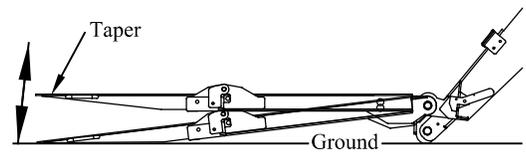

Figure 6: Step 10.
Step 10. To lower the platform to the ground push down on the control toggle. The platform will lower and the taper will tilt until the platform taper touches the ground (Figure 6).